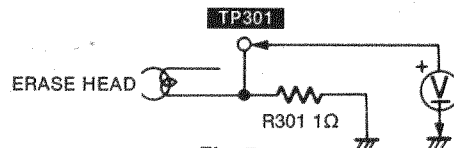

Fig. 7
Procedure 1→2→3→5	• Remove the 4 screws (①~④). Fig. 7